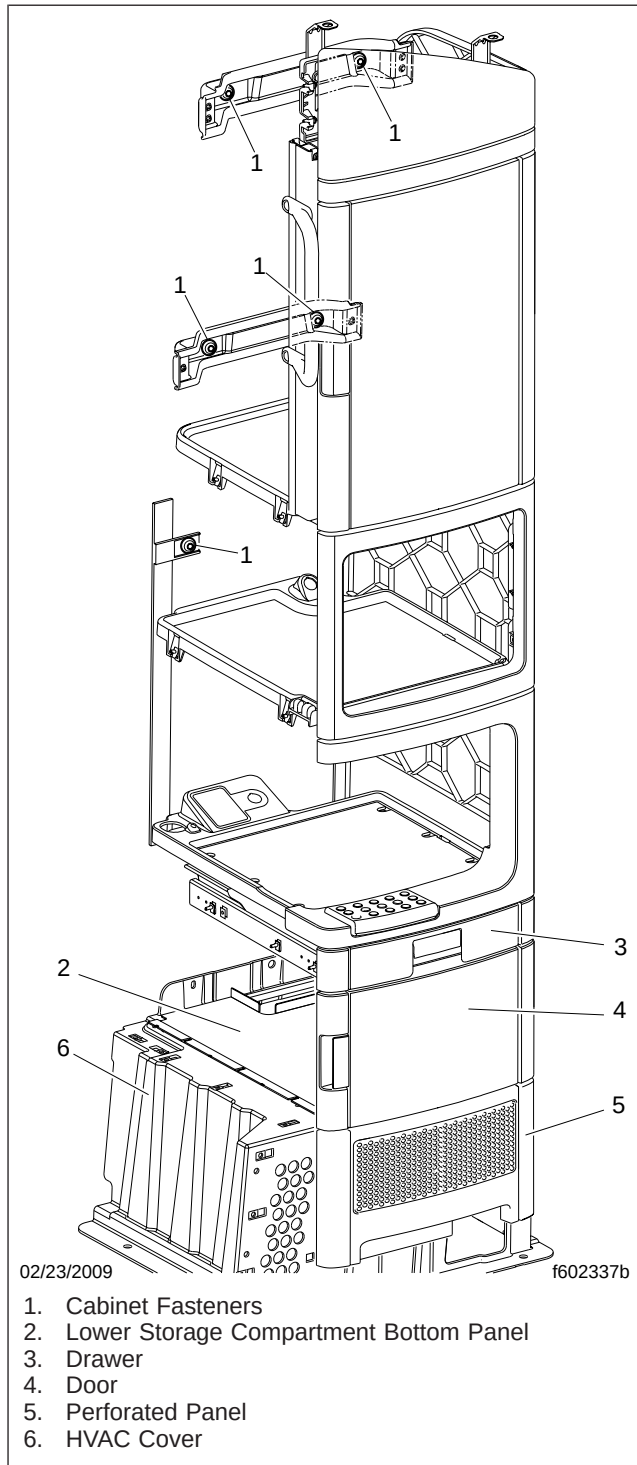

Fig. 3, Sleeper Cabinet Stack
4. Open the lower storage compartment door, and remove the panel on the bottom. See Fig. 3.
17. Remove the HVAC cover. See Fig. 3.